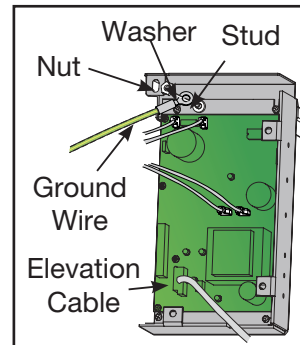

Figure 9
B. Disconnect the elevation motor cable from the lower board. See Figure 9.
- D. Connect the elevation motor cable into the lower board. See Figure 9.